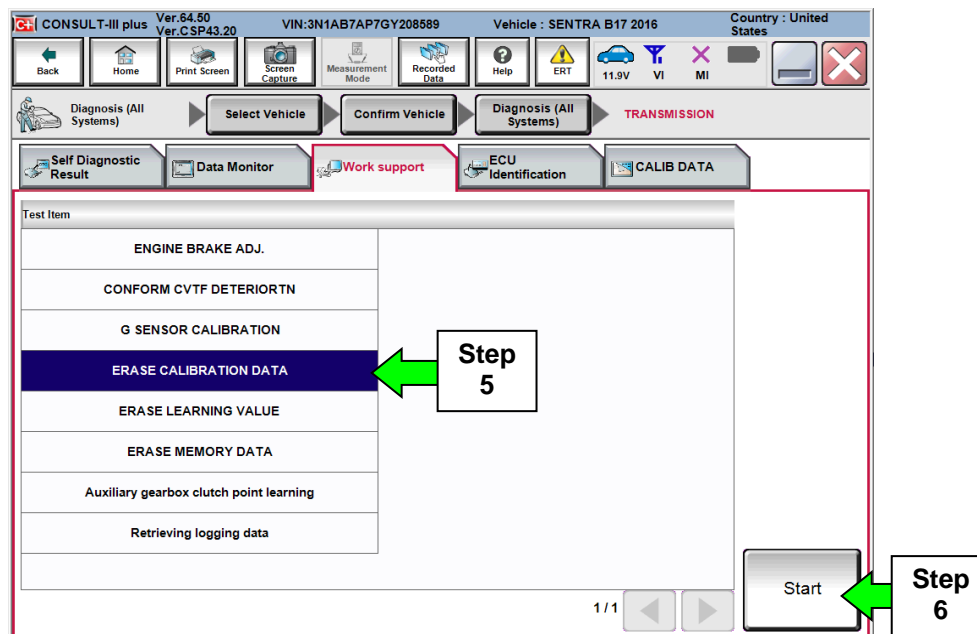

Figure 1
4. Navigate C-III plus to the screen shown in Figure 1 below.